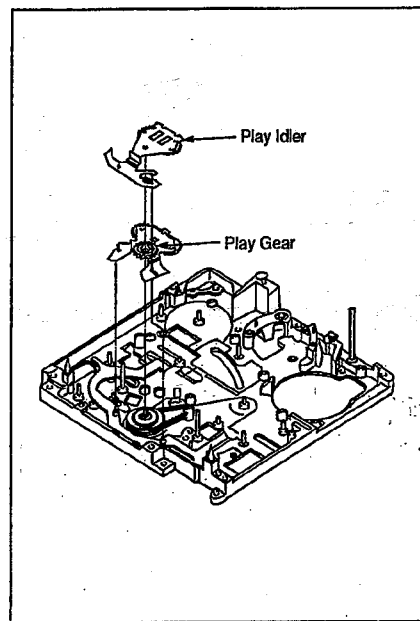

Fig. M20
10. Play & FF/REW Gear Fig. M20 Remove the Play Idler and Play Gear.